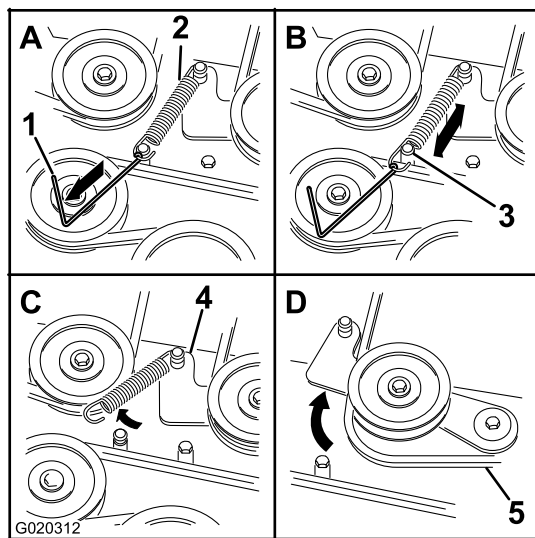

Figure 66
6. Using a spring removal tool (Toro part no. 92-5771), remove the idler spring from the deck post to remove tension on the idler pulley (Figure 66).
1. Install the new belt around the mower pulleys and the clutch pulley under the engine (Figure 66).
2. Using a spring removal tool (Toro part no. 92-5771), install the idler spring over the deck post and place tension on the idler pulley and mower belt (Figure 66).